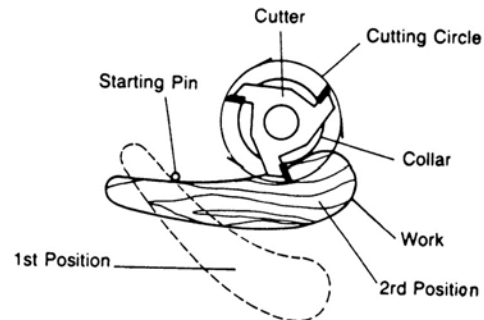

Figure 17
1. Work should be placed in the first position using the guide pin as support, as shown in Figure 17. Then swing the work into the cutter as shown in the second position. The work will now be supported by the collar and starting pin.